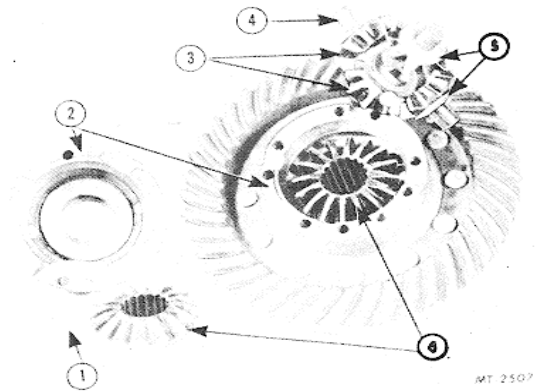

Fig. 18. Differential Component Parts
4. Remove diff spider shaft, spider gears, side gears and thrust washers from diff case halves (Fig. 18).